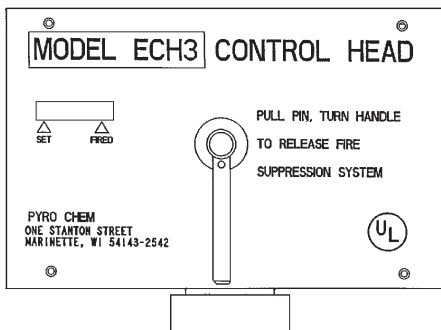

Figure 2-6. Electric Control Head.
The Model ECH3 electric control head is an electrically operated control head which can be connected to the PCI-15/17/25s/35/70 cylinder valve. This control head will support an electric thermal detection system, a remote mechanical pull station (Model RPS-M), and an electric gas shut-off valve. It will not support a fusible link detection system. A micro switch (Model MS-DPDT) is included. The Model ECH3 control head is available in both 120 VAC (Model ECH3-120) and 24 VDC (Model ECH3-24). It is equipped with a local manual control handle that allows for mechanical system actuation. Operation of the local manual control requires removing the pull pin and rotating the handle clockwise. The Model ECH3 control head can actuate a maximum of five (5) cylinders. See **Figure 2-6**.